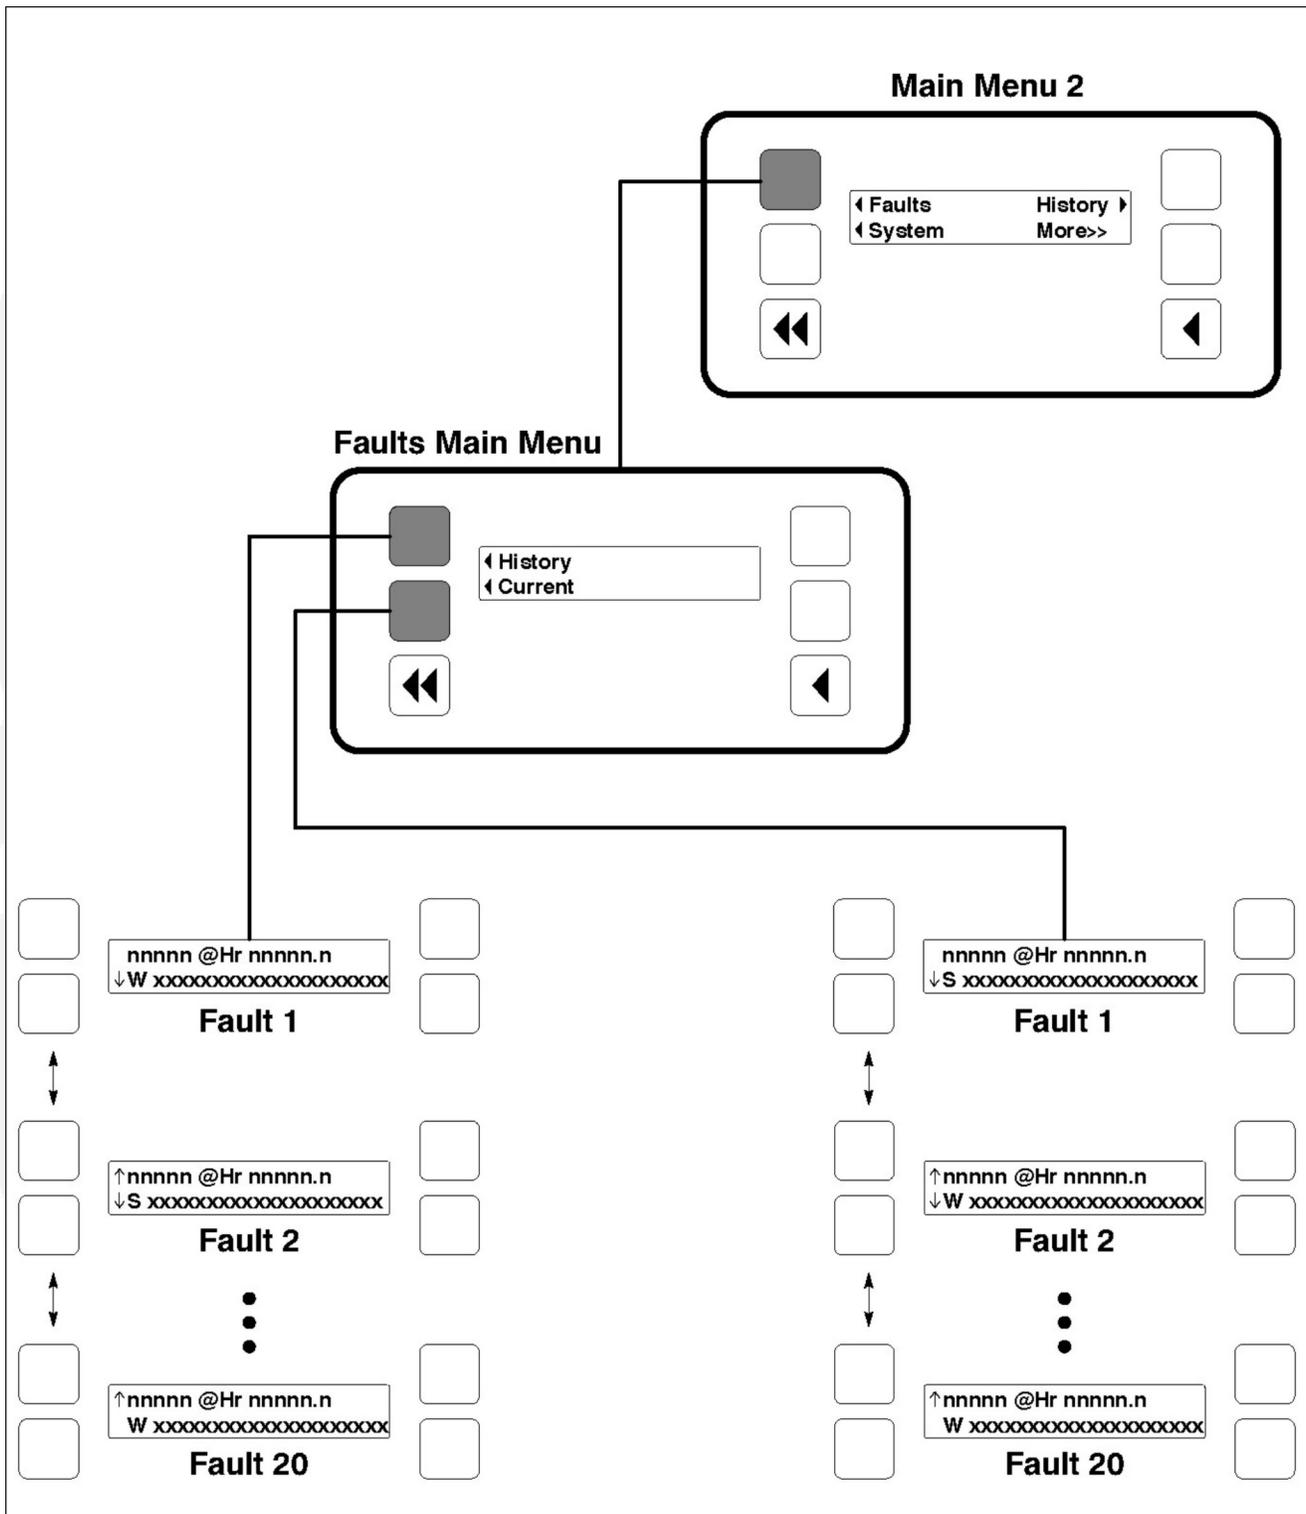
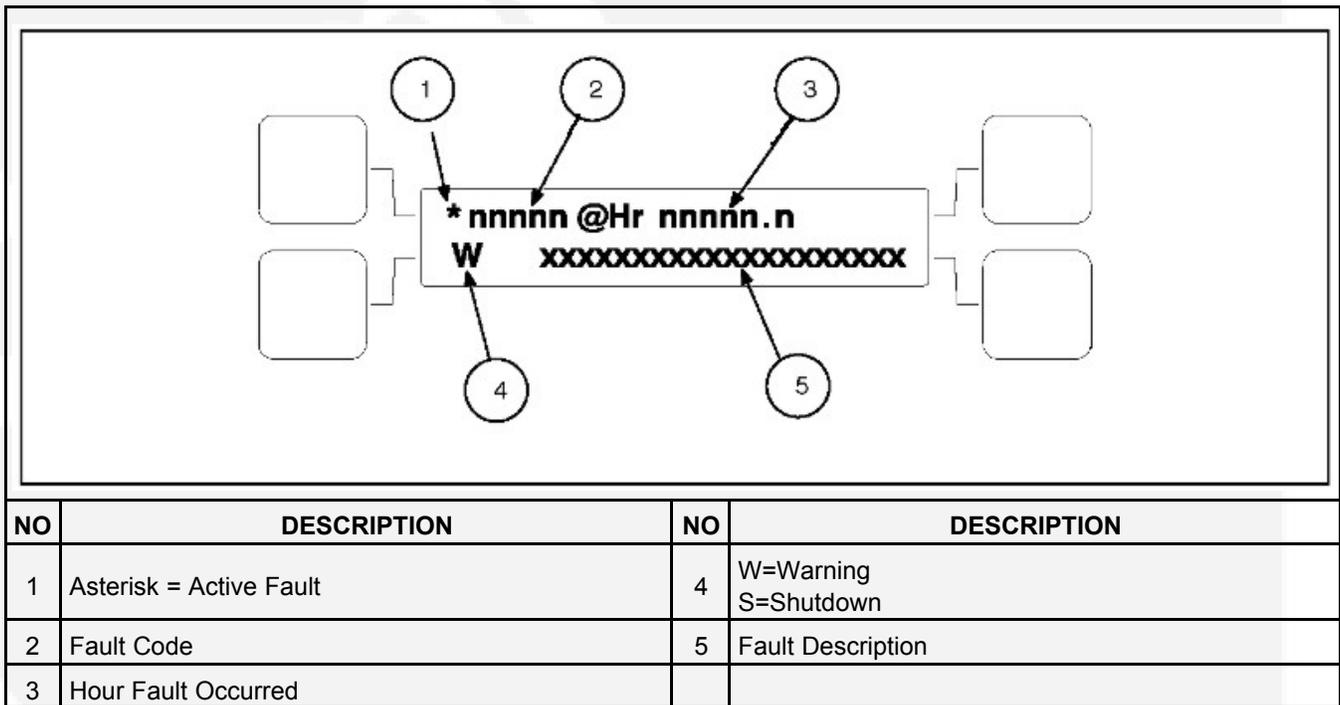

FIGURE 10. FAULTS MENU
FIGURE 11. HISTORY/CURRENT FAULT SUBMENU
**Figure 10** shows a block representation of the Faults menu. Up to 20 of the most recent faults can be viewed. An example of how a fault code is displayed is shown in **Figure 11 on page 35**.